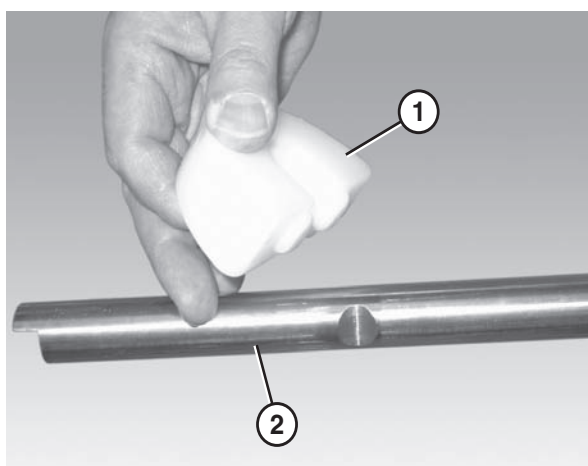

Figure 38
1. Attach the chain return shoes (Figure 38, item 1) to the return shaft (Figure 38, item 2).